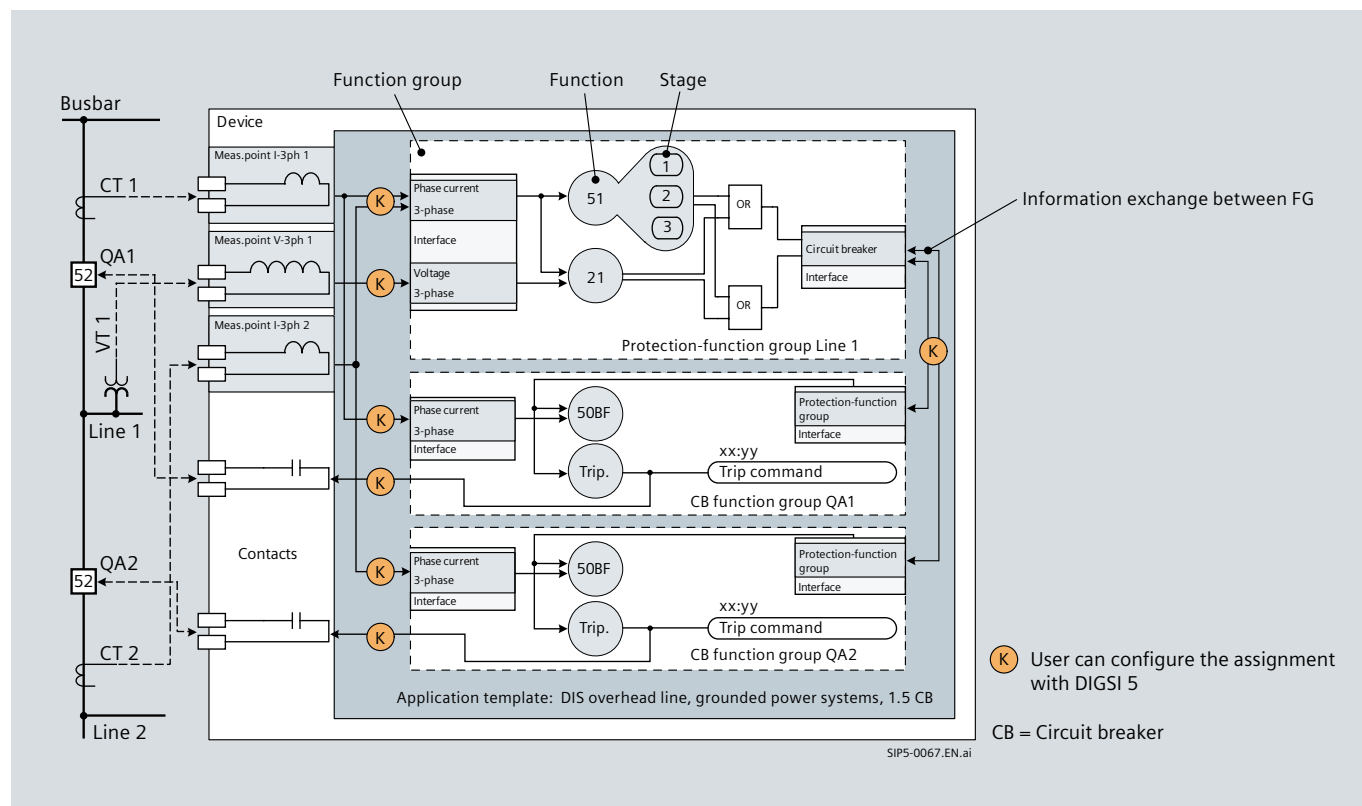

Fig. 3.3 System configuration with application template for breaker-and-a-half scheme
Fig. 3.3 shows an example of a system configuration with breaker-and-a-half scheme. Note that the functions in the application template are combined in functional groups (FG). The functional groups (FG) correspond to the primary components (protection object: line; switching device: circuit breaker), thereby simplifying the direct reference to the actual system. For example, if your switchgear includes 2 circuit breakers, this is also represented by 2 "circuit breaker" functional groups – a schematic map of your actual system.
SIPROTEC 5 includes all bay level control and monitoring functions that are required for efficient operation of the switchgear. The application templates supplied provide the full functionality that you need for your application. Protection and control functions access the same logical elements. In Fig. 3.3 – page 14 (breaker-and-a-half scheme templates), this is illustrated for example by the circuit-breaker function group (e.g., FG CB A-QA). From the point of view of the switching device, protection and control are treated with equal priority.